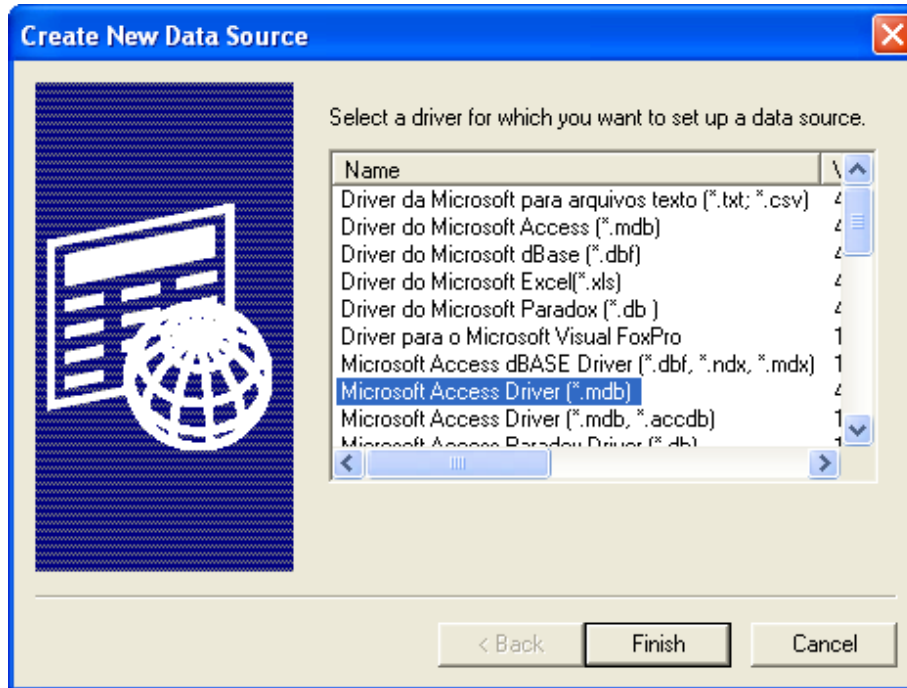

Figure 96 - Create New Data Source Window
6. The **Create New Data Source** window (Figure 96) appears.